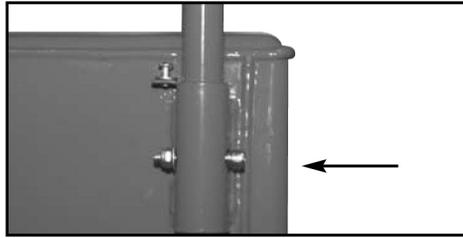

Fig 1
2. Remove nylon insert nut, washers, and shoulder bolts from tank. Assemble handle and reinstall hardware to tank. The shoulder bolt head must be on the outside of the handle to properly secure the handle. Tighten securely using 5mm hex wrench and adjustable wrench. **(See Fig. 1)**